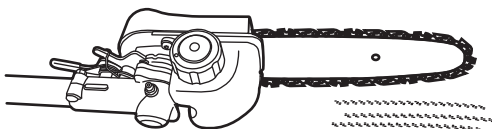

Fig. 10c
b). Start the engine; keep it running at medium power and check if the chain oil is delivered as shown in the figure. (See Fig. 10c)